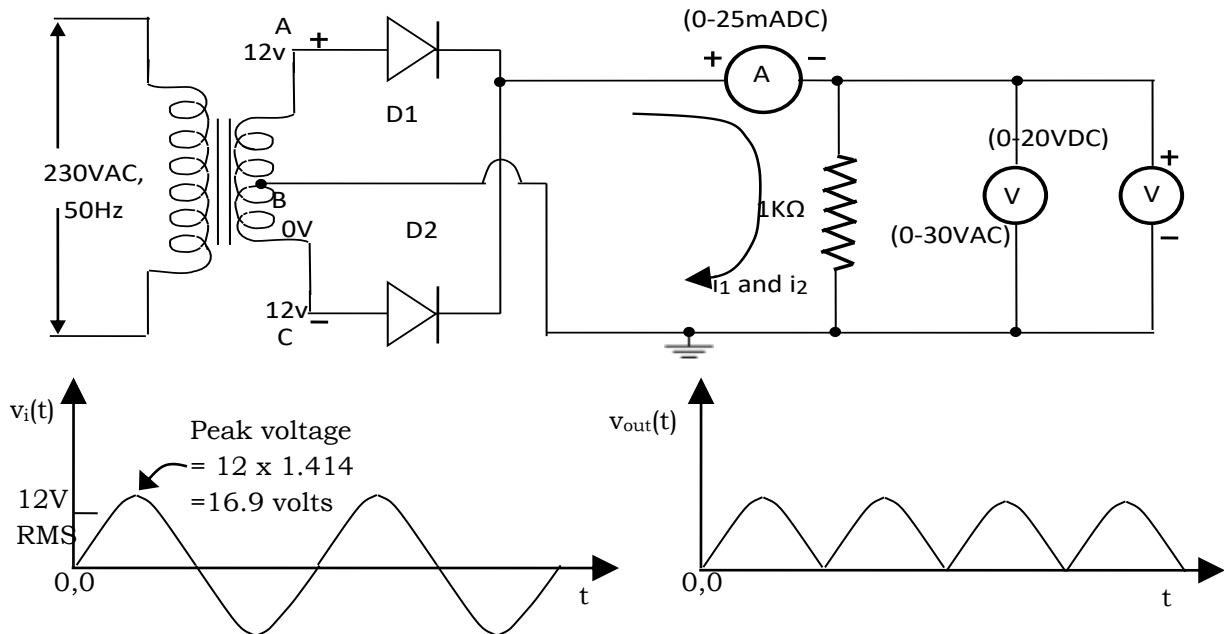

Fig. 1 Full-Wave Rectifier without filter
1. Connect the circuit according to Fig. 1 and Switch ON the power supply.